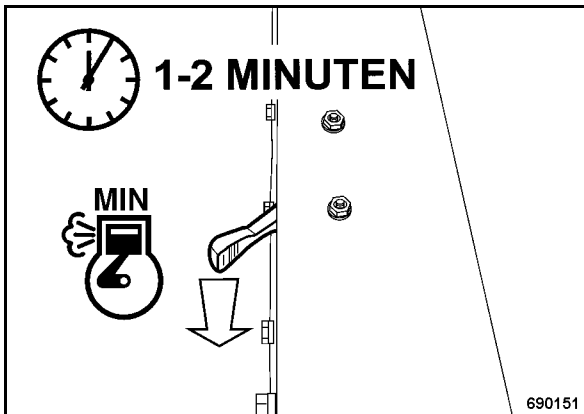

Fig. 28
- Shift the throttle lever (Fig. 28) to position "MIN" and let the engine run with idle speed for a short while.